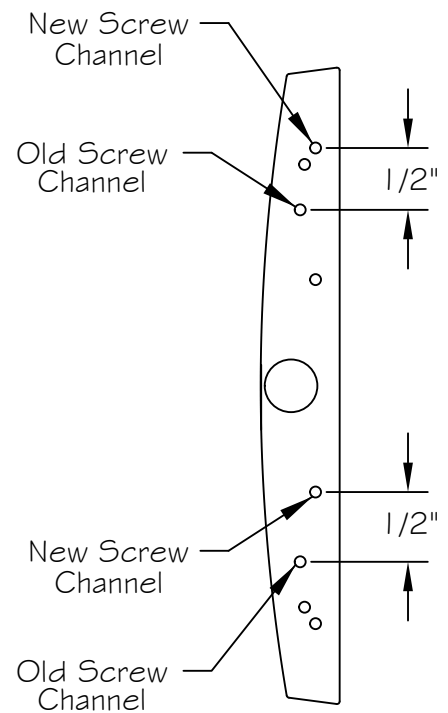

Figure 3
Step 4; Handle slides 1/2" down and installs in the new screw channels in Figure 3.